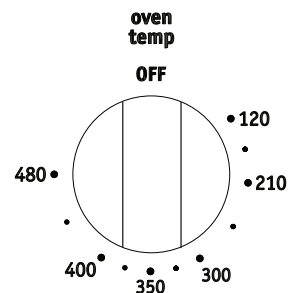

Figure 21: Oven temp knob
4. Turn the **oven temp** knob to the desired temperature position (Figure 21).